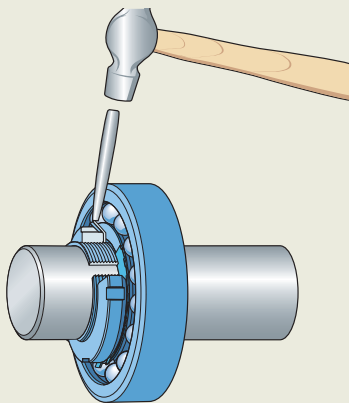

Fig. 29
- 2 Tighten the nut against the bearing or component with an impact spanner (fig. 29), aligning one of the slots in its outside diameter with the keyway in the shaft thread and making sure to not over tighten it.